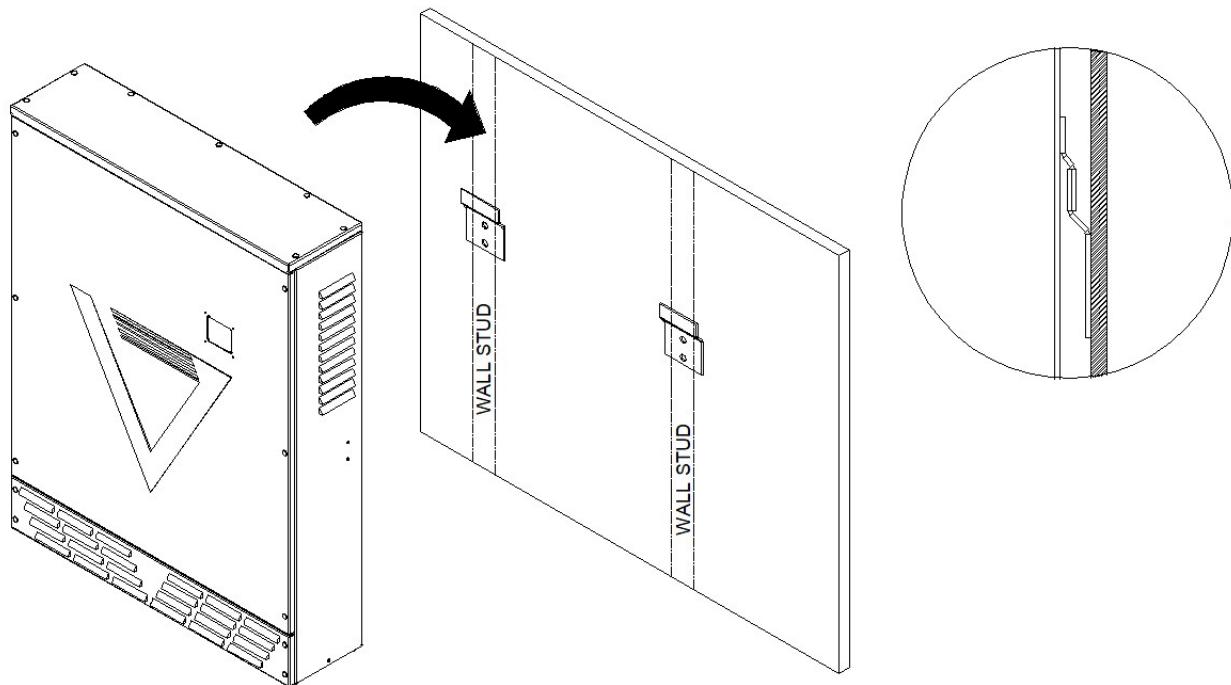

Figure 5
The NV14 Energy Storage System must be installed using the wall mounting brackets and hardware provided. The wall mounting brackets must be anchored to a minimum of two (2) vertical wall studs (See figure 5). 3/8" x 2 1/2" lag bolts with washers must be used to mount the wall mounting bracket to the vertical studs.